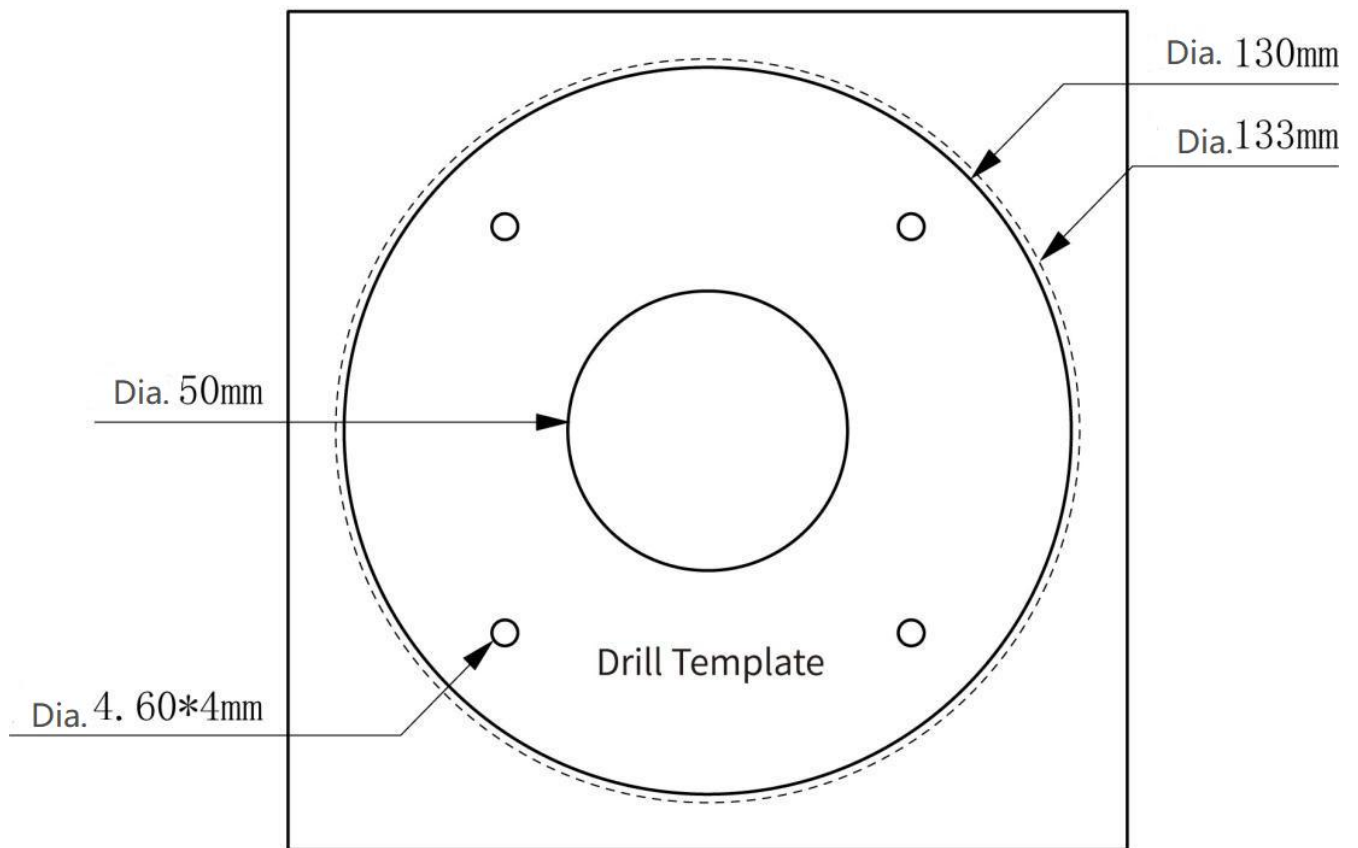

Figure 2.4 Mounting Alignment Guide
1. **Step 1** Mounting Alignment Guide Please paste the sticker attached on the selected installation wall, and then drill four $\Phi 5$ installation holes according to the markers on the alignment guide. The recommended depth is 35mm. The alignment guide is shown in Figure 2.4. After the installation hole is drilled, insert the expansion tube into the drilled hole.